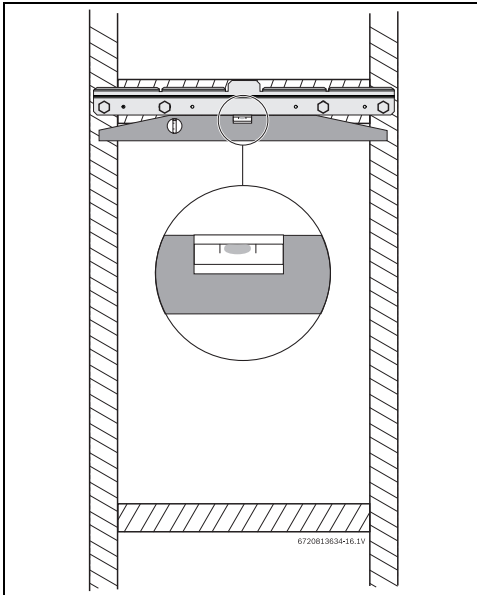

Fig. 8 Leveling wall mounting bracket
- Secure the wall mounting bracket provided with the heater to a wall surface. The heater must be kept level on the wall surface, see fig. 8, page 15.